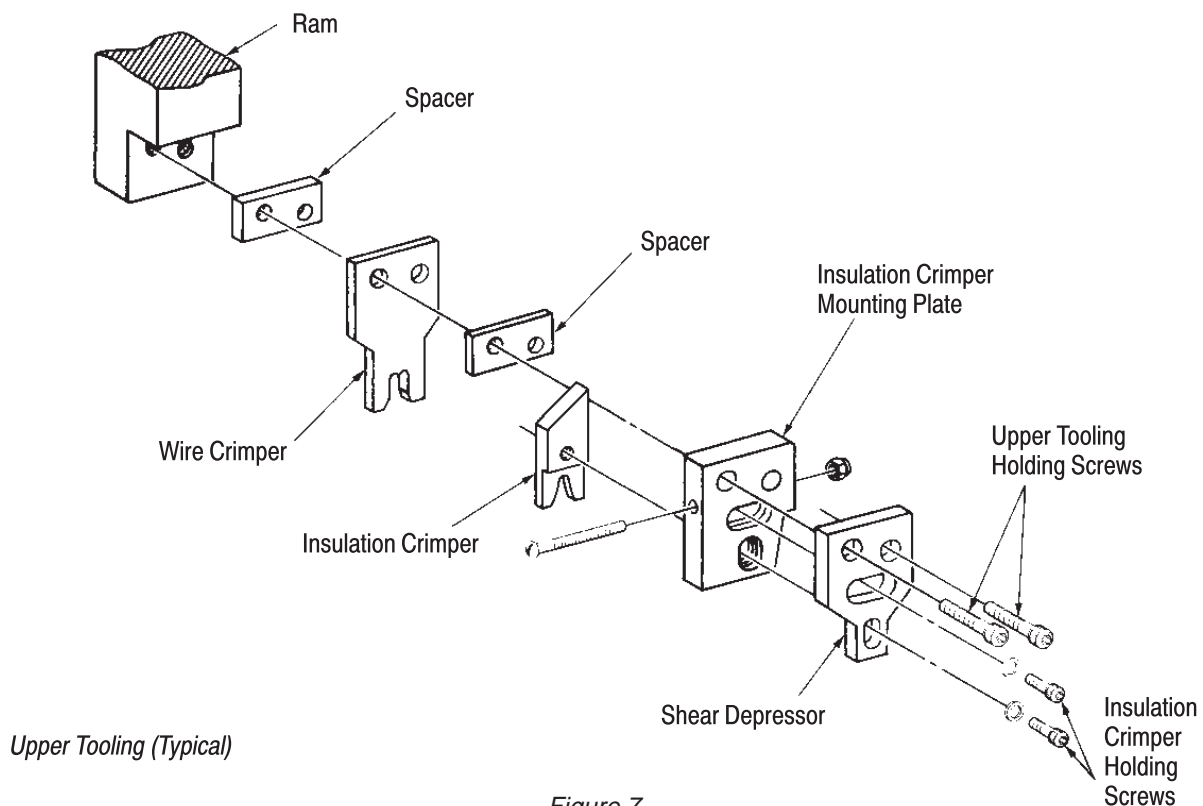

Figure 7
1. While holding the insulation crimper with one hand, remove the bottom holding screw from the insulation crimper mounting plate. See Figure 7.
1. Loosen the two upper tooling holding screws on top of the shear depressor. See Figure 7.